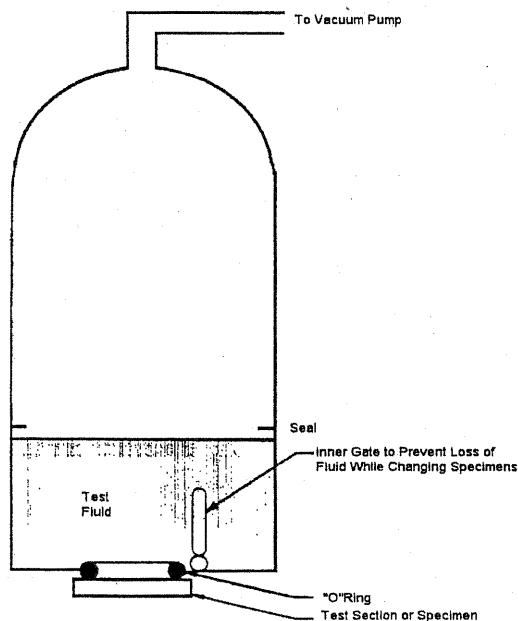

FIG. 1 Vacuum Chamber Technique
8.4.3 Vacuum Technique – Place the test specimen in a container of the selected test fluid and place the container in a vacuum chamber with viewing ports. Reduce the pressure in the vacuum chamber and observe for a stream of bubbles originating from a single point or two or more bubbles that grow and then release from a single point. The amount of vacuum used will be dependent on the test fluid and should be the maximum obtainable without the test fluid boiling. This technique is also applicable to unsealed components or specimen sections by use of the apparatus shown in Fig. 1.